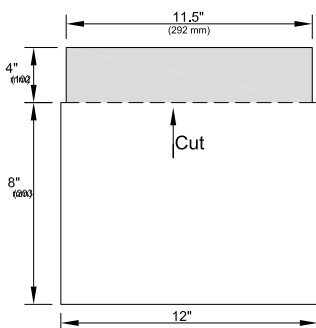

Figure 2
4. **Prepare the starter course...** Use a 12" x 12" (305 mm x 305 mm) ridge cap piece and cut along the line between the headlap and exposed area of the shingle. This will provide a double-thick 4" x 11 $\frac{1}{2}$ " (102 mm x 292 mm) starter piece (see Figure 2).